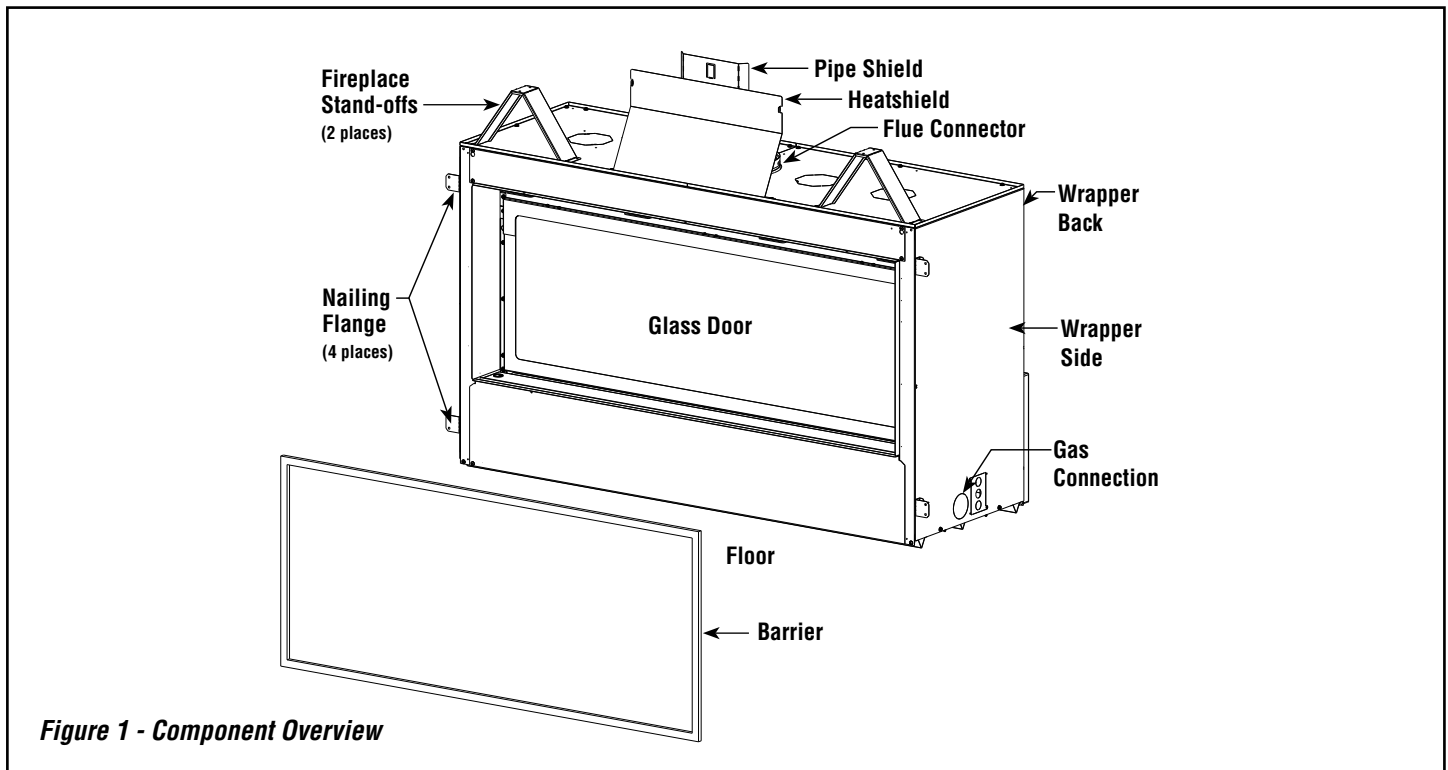

Figure 1 - Component Overview
- DRL4048TEN - Two (2), 5 lb. bags, Black
- DRL6048TEN - Two (2), 5 lb. bags, Platinum
- One (1), Hand Held Remote Control (DRL6048TEN)
- Four (4), AA Batteries
- Three (3), AAA Batteries (DRL6048TEN)
- One (1), Fireboard Top
- One (1), Fireboard Bottom
- Two (2), Fireboard Sides
- One (1) Heat Shield (*see Figure 1*)
- One (1) Pipe Shield
- Twelve (12) #10 Hex Head Screws